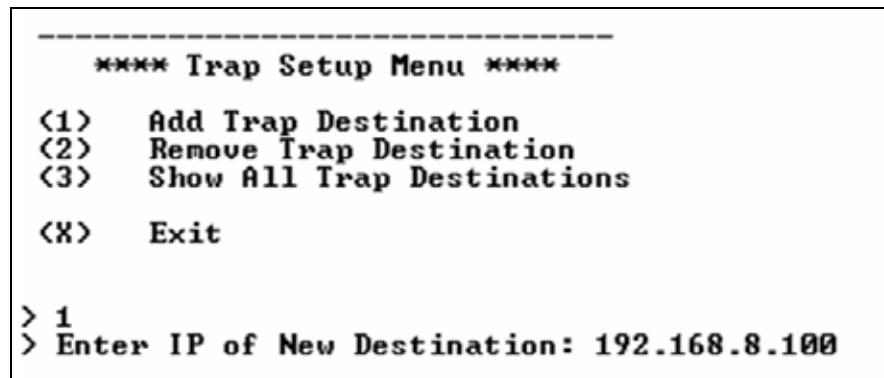

Figure 6-3: Trap Setup Menu
12. A *Trap Setup Menu* will appear as shown in Figure 6-3. To create a trap destination, select option <1> *Add Trap Destination*.